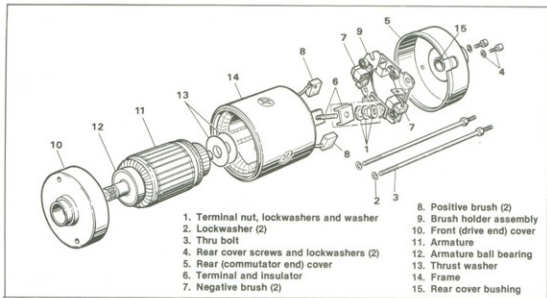

Figure 5-15. Starter Motor
DISASSEMBLY (Figure 5-15)
10. Inspect the bearing (12, Figure 5-15). If it is worn or loose, replace it.
11. Inspect the bushing in the commutator end cover (15, Figure 5-15) and the corresponding bearing surface of the armature shaft. If the bushing is worn, replace the commutator cover. If the armature shaft is worn, replace the armature.
(Figure 5-15)**